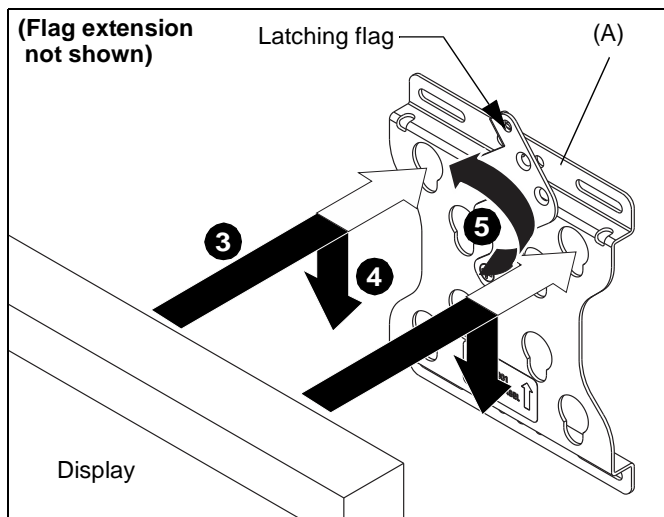

Figure 8
- Lift and maneuver display such that all mounting buttons fit into openings on FSR1U/FSR100 assembly (A). (See Figure 8)
- Lower display firmly into place. Ensure each mounting button has fully seated in the opening. (See Figure 8)
- Close latching flag by rotating flag counterclockwise on FSR1U/FSR100 assembly (A). (See Figure 8)